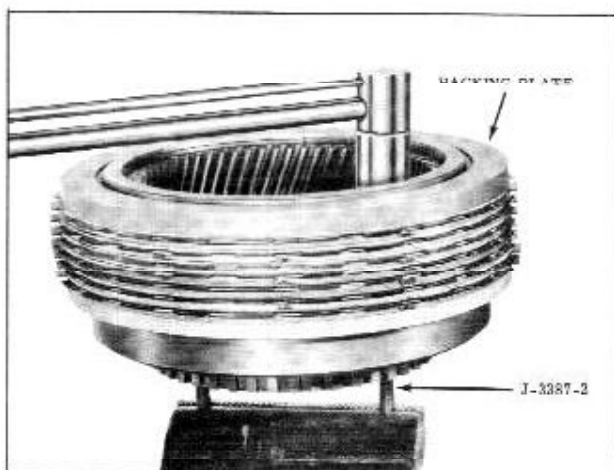

Fig. 3-86 Assembly of Front Clutch
9. Insert Tool J-3387-2 into dowel holes in back side of front clutch assembly, then install front clutch assembly with studs into vise so studs are retained by vise jaws. (Fig. 3-86)